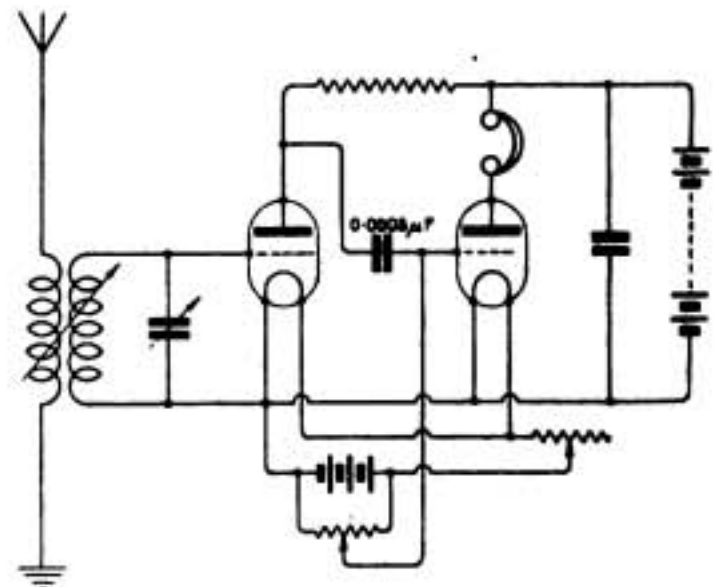

Fig. 3.
"RADIOBUG" (Kilburn) refers to Fig. 3, page 90, April 15th issue, and asks (1) For windings for 120/10,000 metres, to use two complete sets of tuning coils. (2) If capacities given in reply to "H.R.H." (Bristol), the same issue, are suitable. (3) Connection of switching arrangement to introduce crystal detector. (4) How many tapings to closed circuit reaction coils.
(1) For efficient short wave reception make first set wavelength up to 1,000 metres and second up to 10,000. For short wave set make coils as follows:—A.T.I.,  $4'' \times 4''$ , No. 22; coupling coil,  $2'' \times 2''$ , No. 22; secondary,  $3'' \times 3''$ , No. 22; reaction,  $2'' \times 3''$ , No. 28. For long wave set:—A.T.I.  $6'' \times 10''$ , No. 28; coupling coil,  $3'' \times 4''$ ,
(1), (2) and (3) On a former  $3\frac{1}{2}''$  diameter, wind  $2''$  of No. 32, using a variable condenser of 0.0015. (4) See Fig. 3, but it should be remembered that resistance-capacity coupling is not suitable for amplification below about 1,000 metres.
"H.T." (Scunthorpe).—The closed circuit should be arranged as in Fig. 3, page 90, of April 15th, 1922, issue, the value of the grid leak being 2 megohms and the grid condenser about 0.0002 mfd.